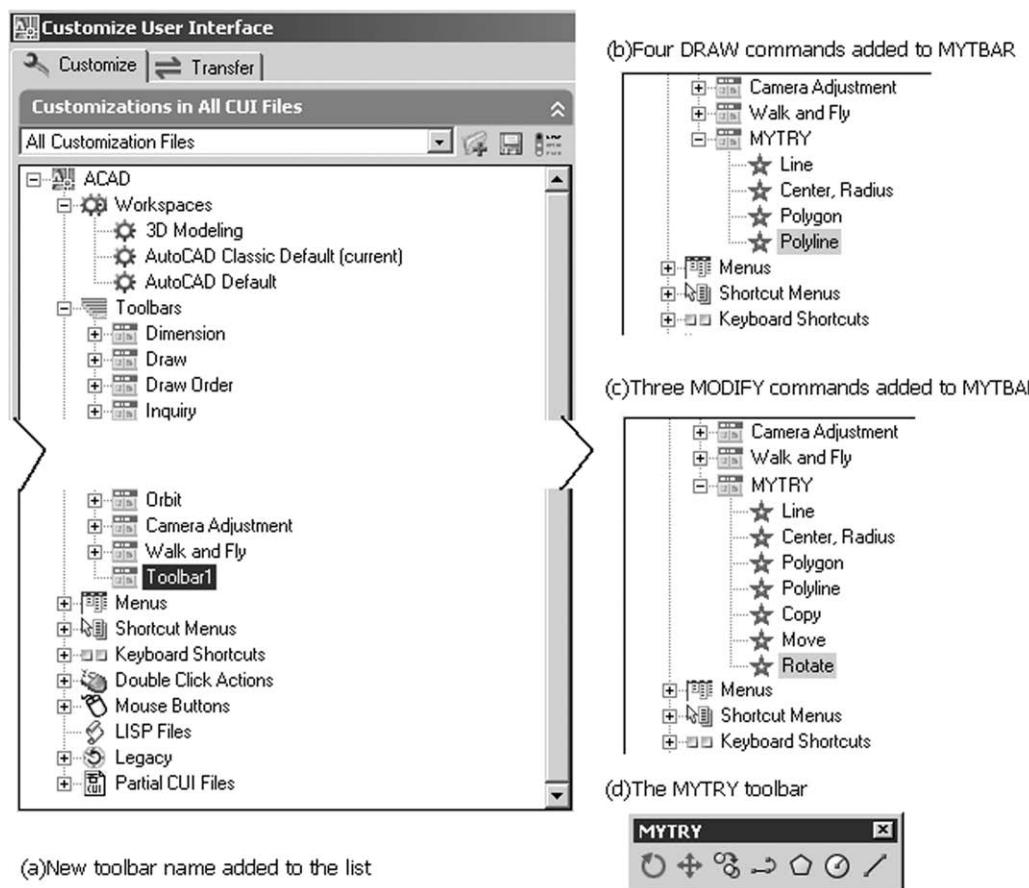

Figure 35.1 Creating the new MYTRY toolbar using the CUI dialogue box.
prompt Toolbars list is expanded with new Toolbar1 added – Figure 35.1(a)
- 4 Repeat the select and drag operations for the Polygon and Polyline draw commands and when complete, the CUI tree hierarchy should be displayed as Figure 35.1(b).
respond a) pick and drag Copy, Move and Rotate into MYTRY – Figure 35.1(c)
and your new toolbar will be displayed as Figure 35.1(d).